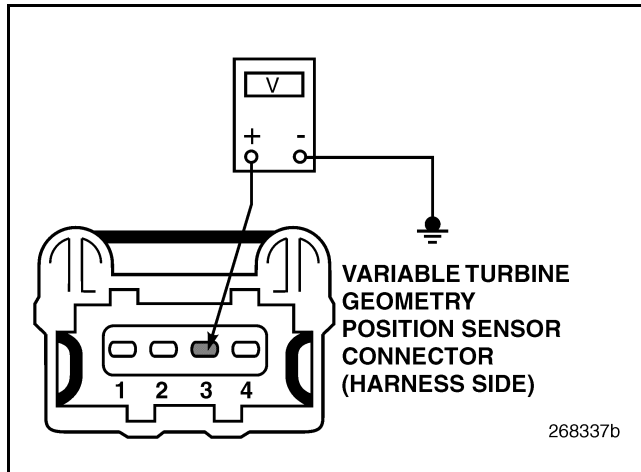

Figure 494
4. Measure the voltage between VTG Position Sensor harness connector pin 3 (reference voltage line) and a good ground (see Figure 494).